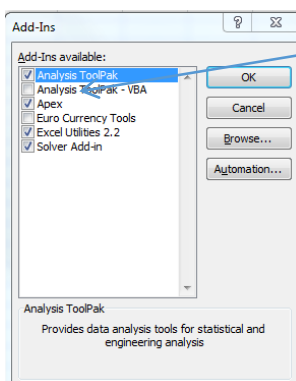

Figure 5
5. If not already selected, select the check box next to **APEx** (Figure 5). Click **OK**. Restart Excel.